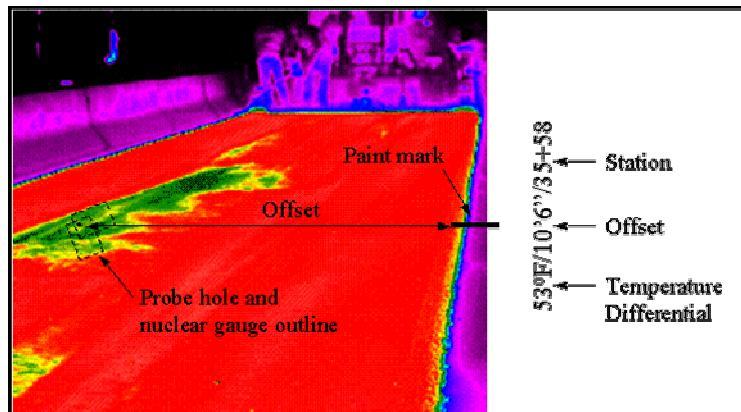

Figure 1
- g. If the temperature differential is 25°F or more, locate the approximate center of the temperature differential area with the camera. The offset is from the center of the temperature differential area to the edge of the lane. Mark the location to be tested for systematic density by placing a paint mark at the edge of the lane corresponding to the center of the temperature differential. Record the temperature differential, offset, and station as shown in Figure 1.
- h. If the temperature differential is less than 25°F , there is no need to mark the location unless an area within the mat has a significantly different texture. If testing is performed because of a significantly different textured area, locate the center of the affected area and mark the location as described in step g and as shown in Figure 1 with an (S) after the temperature differential [23°F (S)/ $8'5''/53+85$].
- g. If the temperature differential is 25°F or more, locate the approximate center of the temperature differential area by scanning that specified location. The offset is from the center of the temperature differential area to the edge of the lane. Mark the location to be tested for systematic density by placing a paint mark at the edge of the lane corresponding to the center of the temperature differential. Record the temperature differential, offset, and station as shown in Figure 1.
- h. If the temperature differential is less than 25°F, there is no need to mark the location unless an area within the mat has a significantly different texture. If testing is performed because of a significantly different textured area, locate the center of the affected area and mark the location as described in step g and as shown in Figure 1 with an (S) after the temperature differential [23°F (S)/8'5"/53+85].
- b. Locate the mark (Figure 1) and record the information as listed.